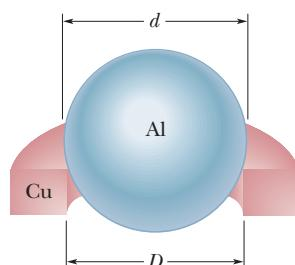

Figure 18-36 Problem 42.
**••42 GO** A  $20.0 \text{ g}$  copper ring at  $0.000^\circ\text{C}$  has an inner diameter of  $D = 2.54000 \text{ cm}$ . An aluminum sphere at  $100.0^\circ\text{C}$  has a diameter of  $d = 2.54508 \text{ cm}$ . The sphere is put on top of the ring (Fig. 18-36), and the two are allowed to come to thermal equilibrium, with no heat lost to the surroundings. The sphere just passes through the ring at the equilibrium temperature. What is the mass of the sphere?